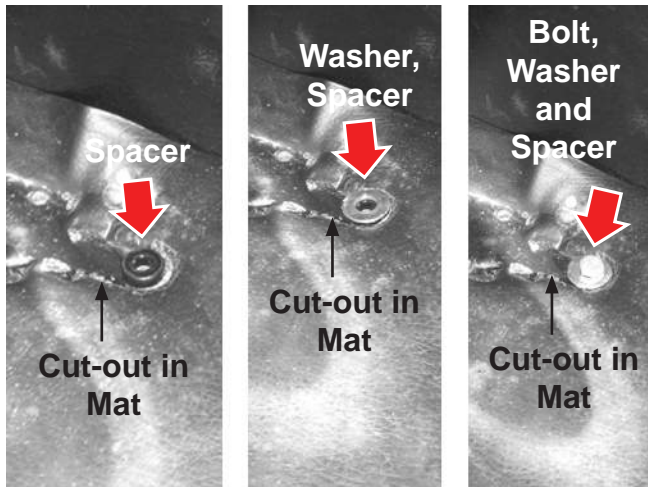

Figure 5-2
2. Place one spacer (A5200041-001) concentric with one of the mounting holes (see Figure 5-2).
3. Place one 1" (guide) washer (GE811637WB01) over the spacer (see Figure 5-2).
4. Clamp the spacer and washer down using one new bolt (GM410108AD16) (see Figure 5-2).